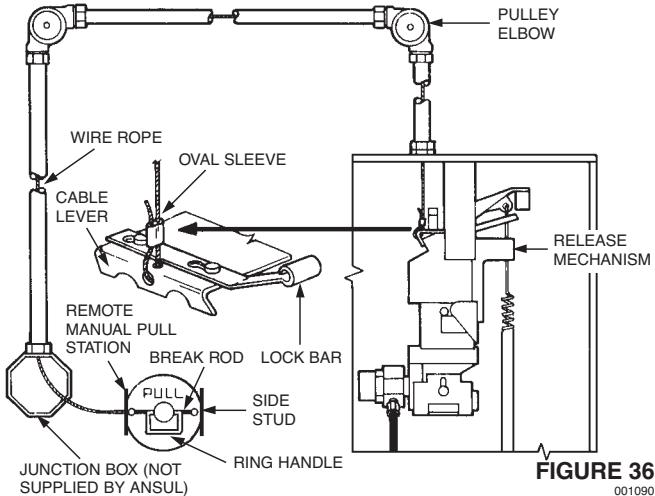

FIGURE 36
3. Install and secure 1/2 in. conduit, pulley tee (if required), and pulley elbows from each pull station junction box to regulated release assembly as necessary. See Figure 36.
- ▶ 6. Slide oval crimp sleeve onto wire rope. Loop wire rope through cable lever guide holes and back through the oval crimp sleeve. See Figure 36.
- ▶ See Figure 36.